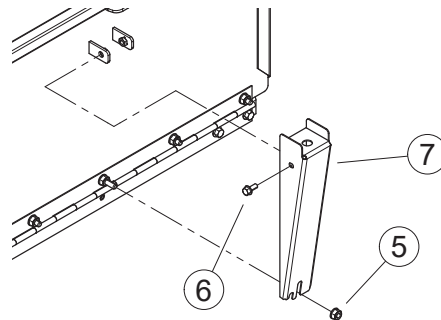

Figure 2.6, Knee Bar Sensor Mount
4. Install knee bar sensor mount (7) on the exterior of the extension tray using two $\frac{5}{16}$ " $\times$ $\frac{3}{4}$ " bolts (6) and one nylock nut (5) as shown in Figure 2.6.